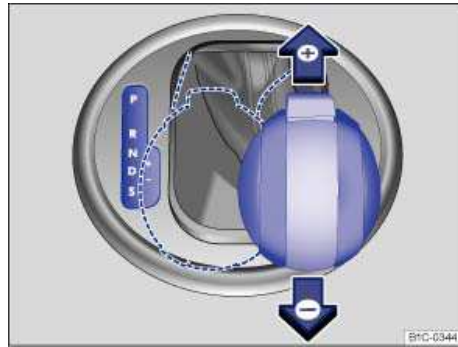

Fig. 120 Selector lever in Tiptronic position.
- Briefly push the selector lever forward (+) to upshift into a higher gear or backward (-) to downshift into a lower gear ⇒ fig. 120.